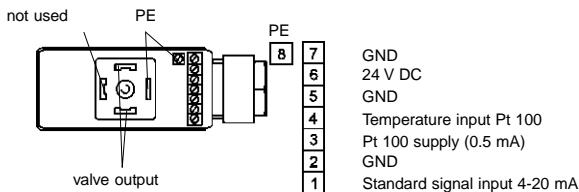

Fig. 2 Wiring connections
- ➔ Connect the cable (Fig. 2)